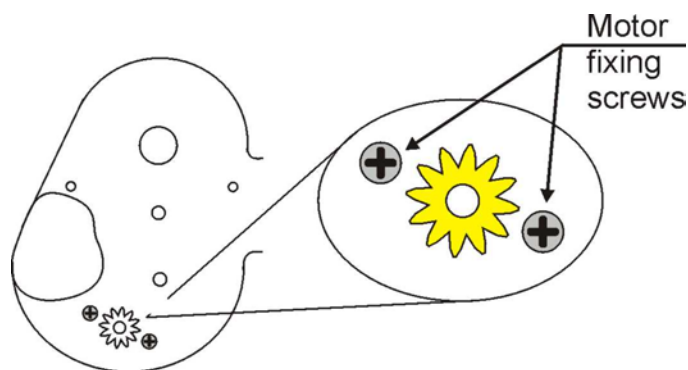

Figure 18: Motor screw positions
7. Unscrew the 2 motor fixing screws. Figure 18.